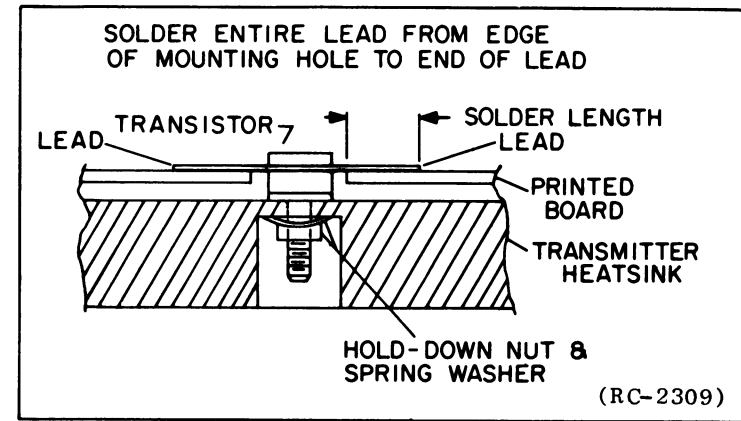

Figure 5 - Lead Forming
8. Make sure that the transistor leads are formed as shown in Figure 5 so that the leads can be soldered to the printed circuit pattern, starting from the inner edge of the mounting hole.